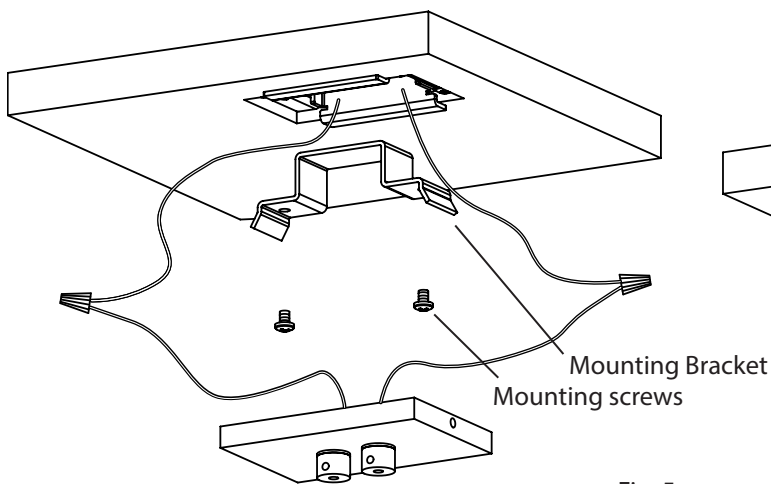

Fig. 5
14. Make appropriate electrical connections using wire nuts: Connect one of the black Power Feed wires to one of the transformer output wires. Connect the other black Power Feed wire to the second transformer output wire. Carefully place connections in the Minibox. (Fig. 5)
15. Attach **mounting bracket** to Minibox with two mounting screws. (Fig. 5)